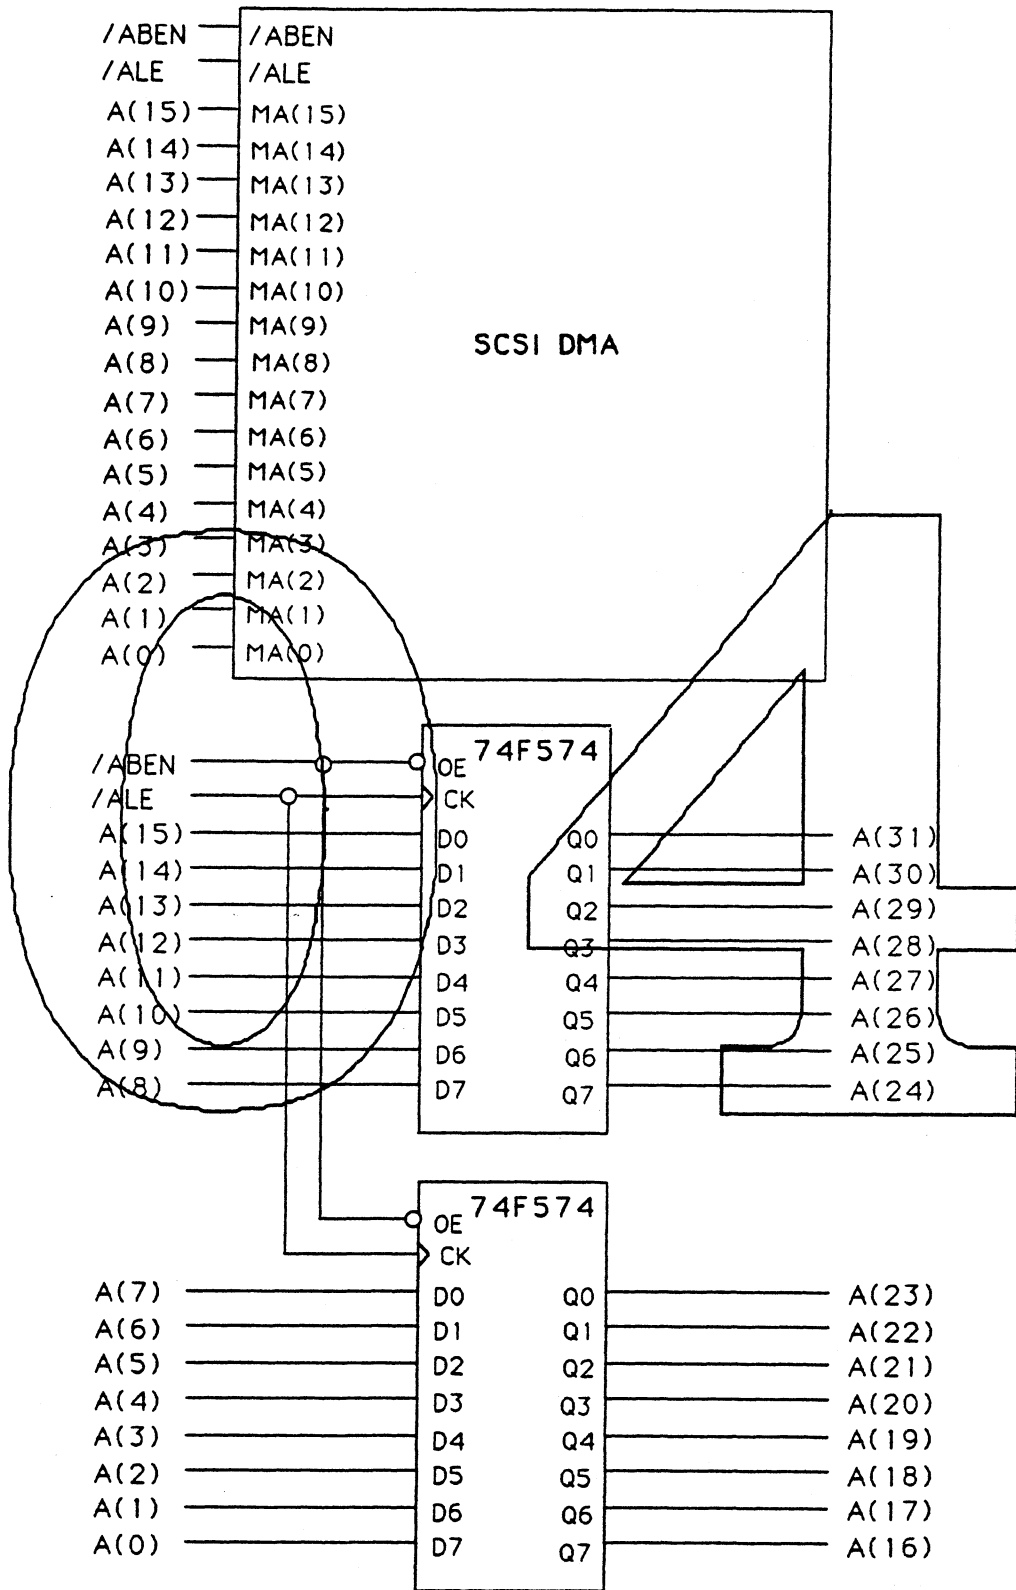

FIGURE 5. SCSI DMA WITH EXTERNAL ADDRESS REGISTERS SCHEMATIC
- /ALE** - During DMA operations, the rising edge of this signal is used to latch the 16 high order DMA address bits. This signal is to supply the clock input to the necessary external address - latching registers. (2 registers, such as 74F574's, are required in a system to accommodate the multiplexed-address design of the SCSI DMA. See figure 5 for schematic.)
The SCSI DMA chip is intended to provide a high speed interface from the 68030 bus to the ANSI Small Computer Systems Interface (SCSI) bus. It provides all the features of, and supports the software written for the 53C80 chip and in addition handles data transfers via DMA to the 68030 host processor. Only data transfers are handled by the DMA channel; other SCSI bus protocol is handled in software running on the host processor. During Programmed I/O (PIO) mode, control and command bytes are passed to the SCSI DMA from the host at one byte per transfer. Using DMA mode, data transfers are normally 4 bytes (32 bits) per transfer. Two eight bit registers (74F574 for example) are required external to the SCSI DMA to allow for multiplexing the address bus and thus reducing the pin count of the SCSI DMA. See Figure 5 for schematic.